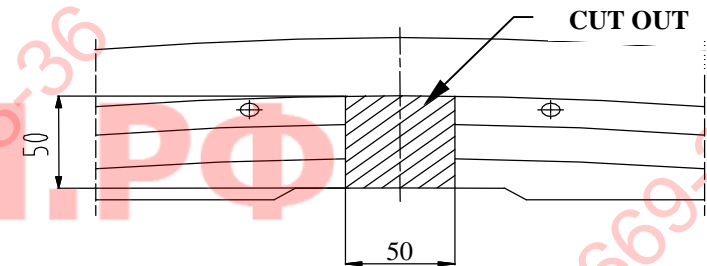

Fig.2.
3. In maked holes put sleeves  $\varnothing 17$  mm (pos. 8), length = 73 mm.
4. To rear side put base bar of towbar (pos. 1) in that way, so holes pos. A agree to holes for unscrewed reinforcement and screw using bolts M8x35mm (loosely) – pos. 13.
5. Elements (pos. 4 and 5) put to chassis members and rear side and screw using bolts M10x110 mm (pos. 11) and M10x35mm (pos. 12).
6. Assemble masking cover and bumper after cut his fragment 50x50mm – see fig. 2.